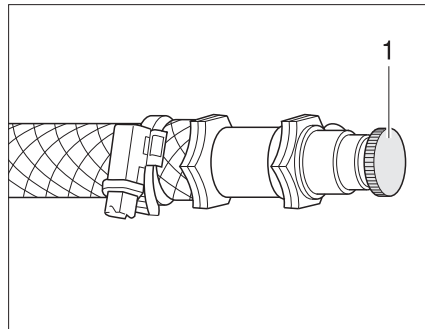

Fig. 163 Bleeding valve of hot-water heater
- Open the bleeding valve (Fig. 163,1) and leave it open until no more air escapes.